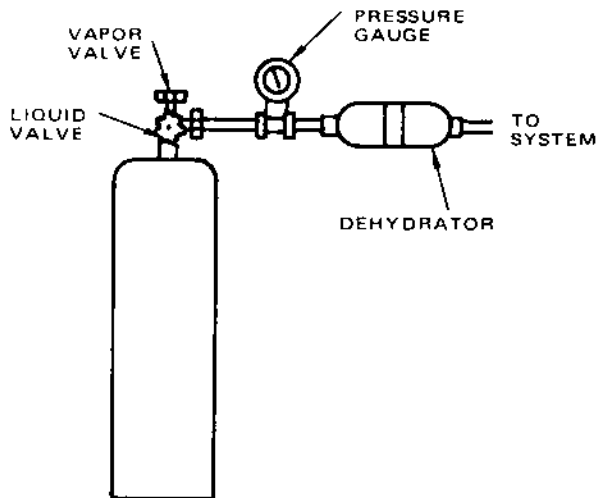

FIGURE 8—Low Side Charging.
2. Connect the line from the refrigerant drum to the back-seat port. Purge the line before tightening the connection. Refrigerant should be charged to the system through a suitable dehydrator (see Figure 8).
HIGH SIDE CHARGING (See Figure 8)